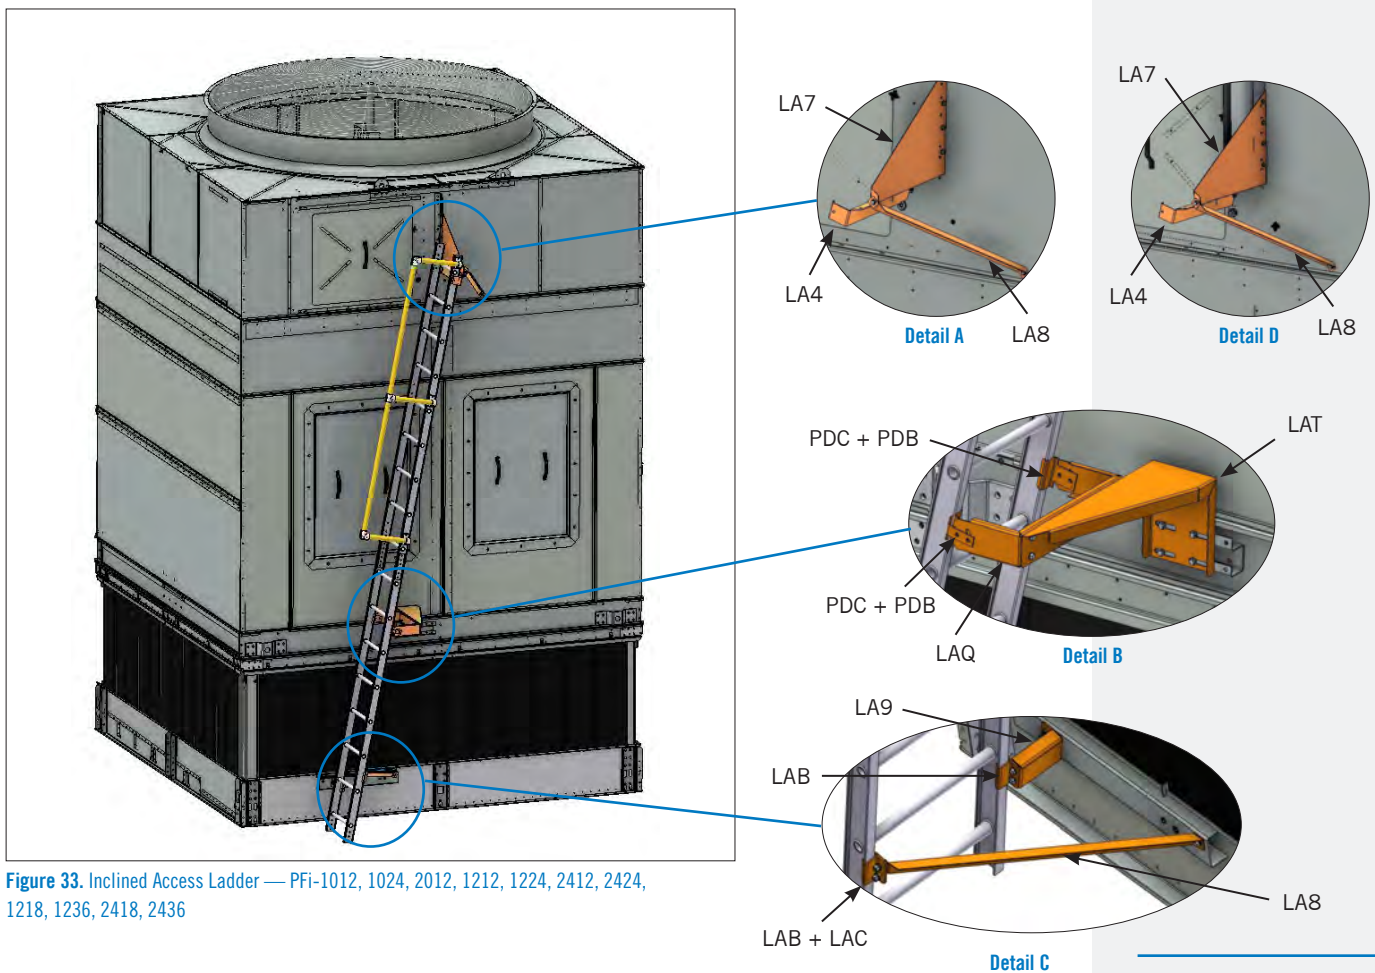

Figure 33. Inclined Access Ladder — PFI-1012, 1024, 2012, 1212, 1224, 2412, 2424, 1218, 1236, 2418, 2436
- PFi-1012, 1024, 2012, 1212, 1224, 2412, 2424, 1218, 1236, 2418, 2436 – LA7, LA8, LA4. See **Figure 33, Detail A** (without davit), or **Figure 33, Detail D** (with davit).